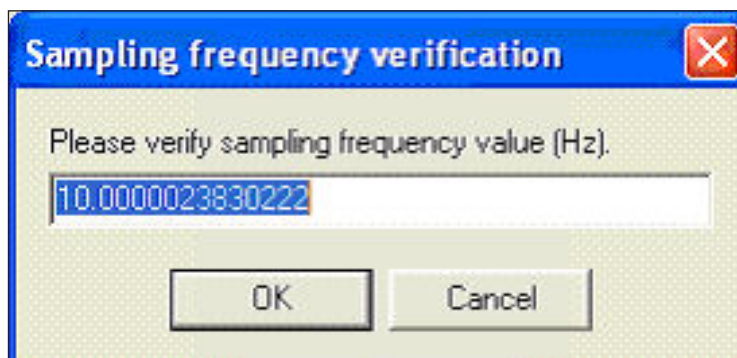

**Figure 1:** Select Interpreter from the Processing menu.
1. Open EdiRe, and go to Processing → Interpreter (see Figure 1).